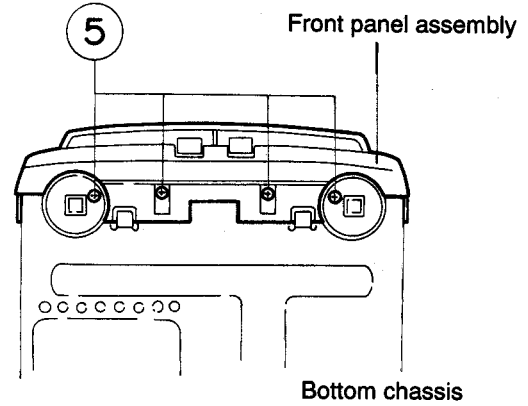

Fig.5-5
(See Figs. 5-5~5-9)
3. Remove the four screws ⑤ fastening the front panel assembly to the side of the main unit.(See Fig. 5-5)